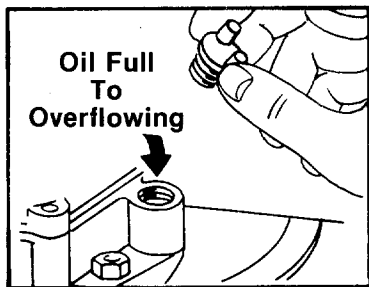

FIGURE 17.
**CHANGE OIL** after first 5 hours of operation. Thereafter change every 25 hours. Change oil while engine is warm. Oil may be drained thru oil fill opening by tipping the unit on its side. Oil capacity 1-1/4 pints. See figure 17.